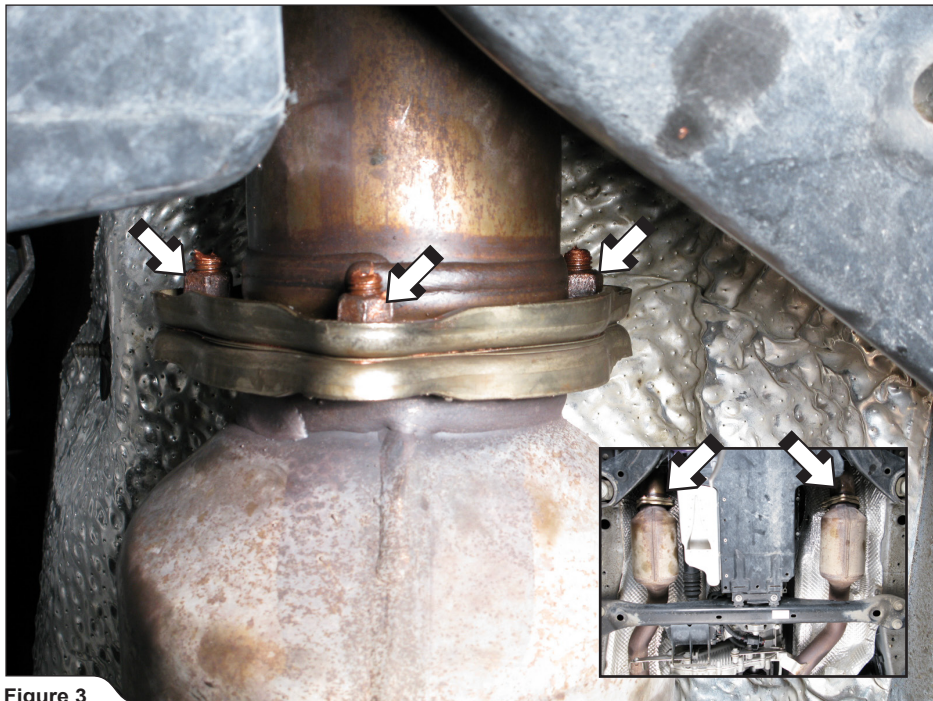

Figure 3
4. For Optional Front Link Pipe Set only: unscrew the marked flange nuts on both sides (Figure 3).